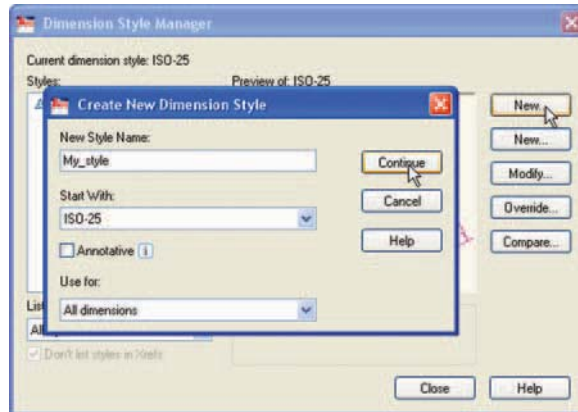

Fig. 4.13 The **Create New Dimension Style** dialog
8. The **Dimension Styles Manager** dialog reappears showing dimensions, as they will appear in a drawing, in the **Preview of my-style** box. *Click* the **New...** button. The **Create New Dimension Style** dialog appears (Fig. 4.13).